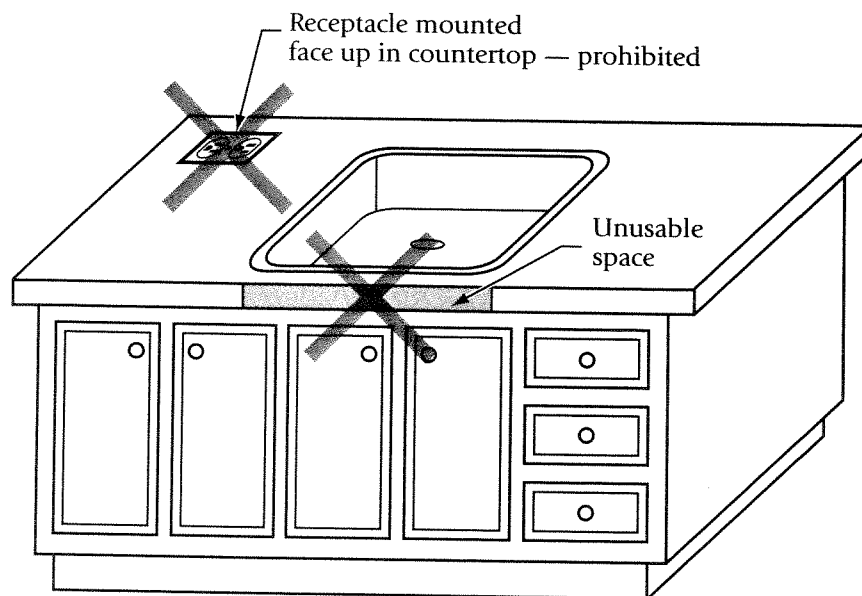

Figure 31
- Receptacles in kitchen or dining area work surfaces must not be mounted facing up (see Figure 31).